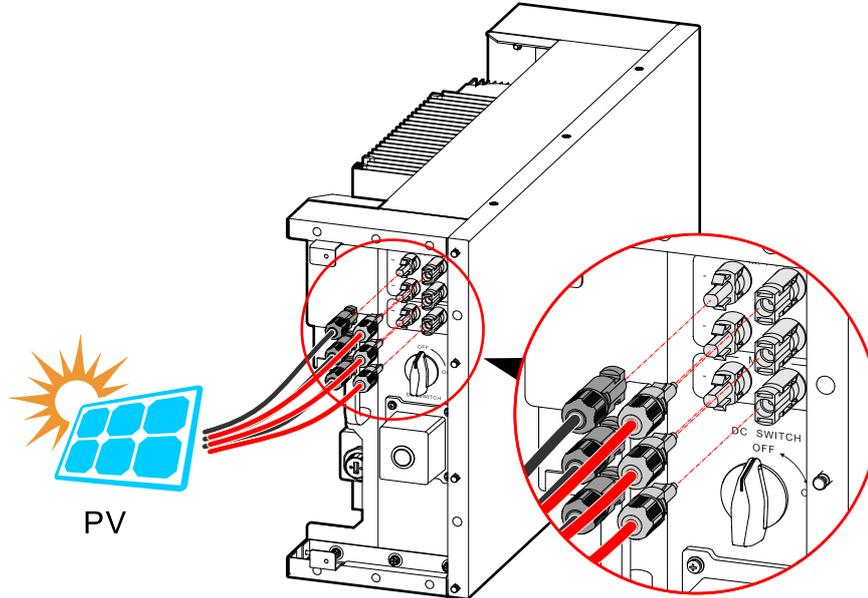

Figure3-37 Connect the PV connector
- Step 7 Insert the positive connector and negative connector to the MPPT+ and MPPT– terminals (as shown in Figure3-37) and tighten them. If there has a click sound, it means that the connector have been inserted properly.